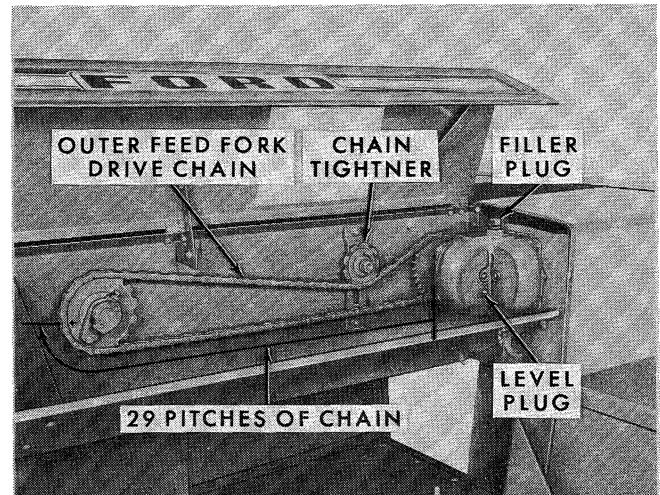

Figure 29
1. Loosen the feed fork drive chain tightener, Figure 29.